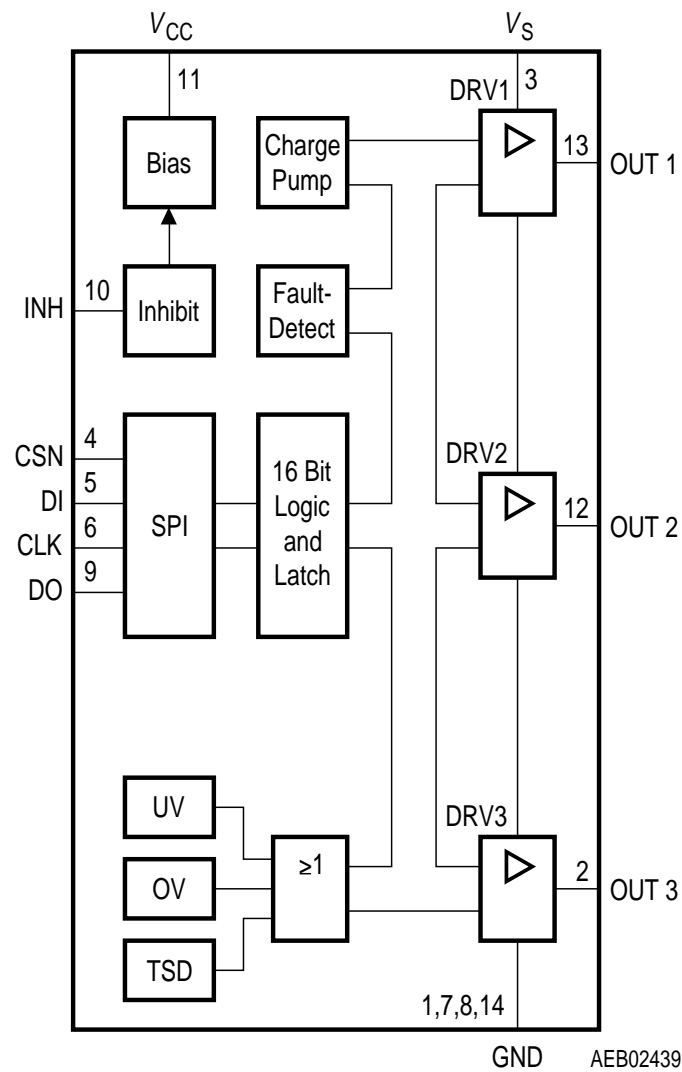

Figure 2 Block Diagram
**Figure 2** shows a block schematic diagram of the module. There are 3 halfbridge drivers on the right-hand side. An HS driver and an LS driver are combined to form a halfbridge driver in each case. The drivers communicate via the internal data bus with the logic and the other control and monitoring functions: undervoltage (UV), overvoltage (OV), overtemperature (TSD), charge pump and fault detect.